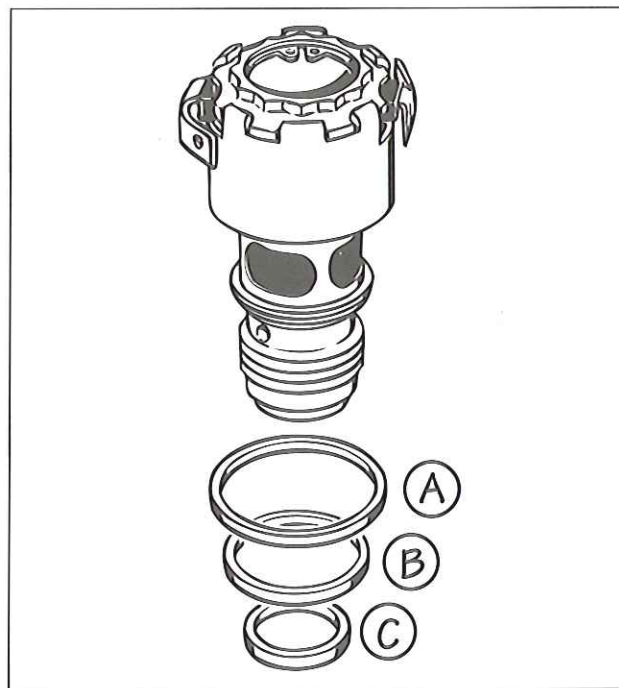

FIG. 50
5. Coat new solenoid valve seal rings with clean lube oil. Install the upper (A) and center (B) seal rings on the solenoid valve body and the lower (C) seal ring into the bottom of the bore in the housing (see Fig. 50).